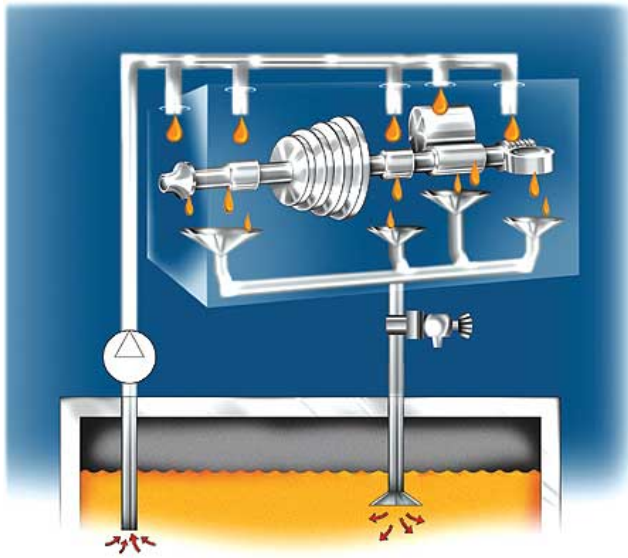

Figure 2. Return or drain line
**Drain Lines.** In drain lines where fluids are mixed with air, sampling valves should be located where oil will travel and collect. On horizontal piping, this will be on the underside of the pipe. Sometimes oil traps, like a goose neck, must be installed to concentrate the oil in the area of the sampling port. Circulating systems where there are specific return lines or drain lines back to a reservoir are the best choice for sampling valves (Figure 2).